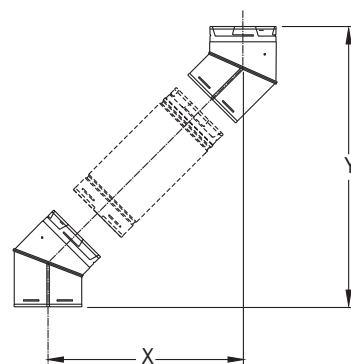

Figure 2
Step 4.	If an offset is required to avoid rafters or other obstructions, measure the horizontal distance required and the vertical height available. Both 15° and 30° elbows are available. Elbows greater than 30° are not allowed in the United States. Elbow straps ensure adequate support. See Figure 2.